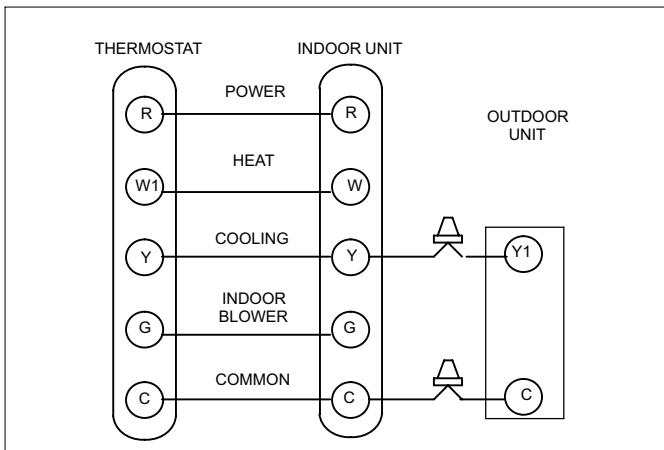

Figure 28. 24VAC Control Wiring Diagrams (Field Installed)
1. Install line voltage power supply to unit from a properly sized disconnect switch. Any excess high voltage field wiring should be trimmed or secured away from the low voltage field wiring as illustrated in figure 28.